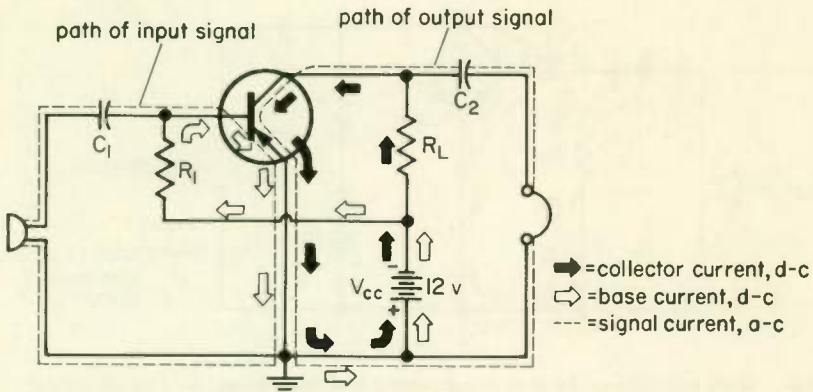
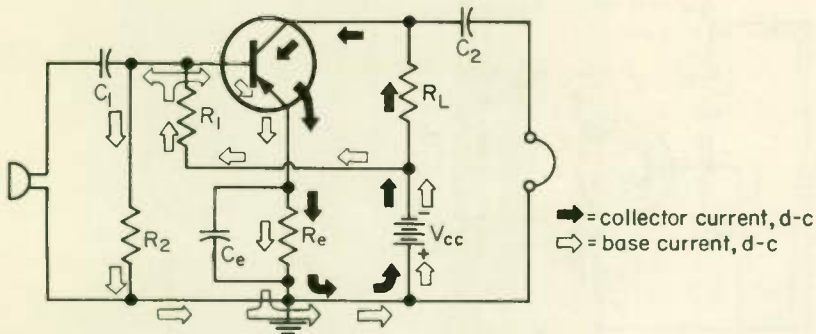
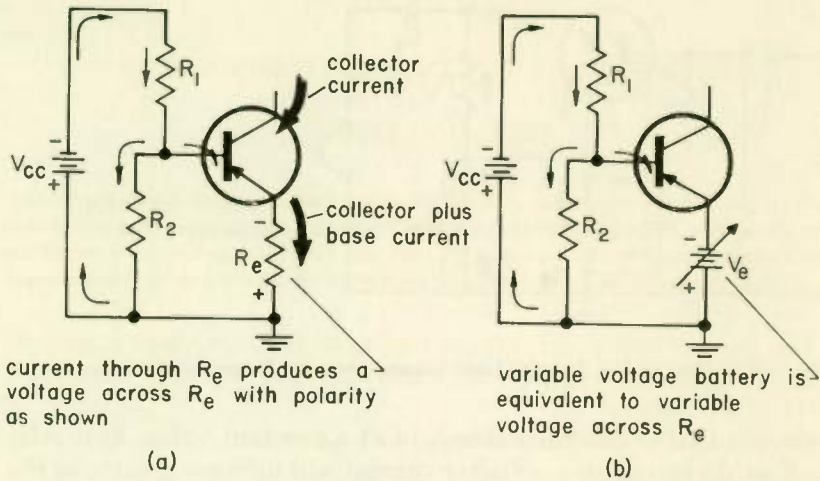

Fig. 25 Amplifier of Fig. 24 using a single voltage source.
Fig. 26 Amplifier of Fig. 25 with base biasing changed to provide stabilization.
Fig. 27 Stabilization circuitry from Fig. 26.
Now there is no need to have separate batteries to supply the collector current and the base biasing current. We can get the current for the base just as well from V_{cc} as shown in Fig. 25, so that V_{bb} is not needed. The only difference is that we are now using 12 volts for supplying the base bias current, where 1.5 volts was used before. As a result R_1 will need to be much larger.
Figure 26 shows one widely used stabilization method. The circuit differs from Fig. 25 in that R_2 , R_e , and C_e have been added. Also, a different value is used for R_1 . Tracing the d-c base current from the negative side of V_{cc} , notice that after it passes through R_1 , it divides, part going through R_2 and part through the transistor from base to emitter to form the base biasing current. In Fig. 27(a) the biasing part of the circuit has been redrawn, so that you can see better how the biasing current divides after going through R_1 ; part going through R_2 , and part through R_e . The collector current, many times greater than the base current, also flows through R_e . In accordance with Ohm's Law, the emitter current produces a voltage across R_e that is proportional to the emitter current. Thus as the collector current, and therefore the emitter current, varies because of temperature changes, so does the voltage across R_e vary.
We can represent the voltage across R_e by an equivalent battery V_e , as shown in Fig. 27(b). Notice that the polarity of V_e is such as to try
Figure 25 shows that the a-c signal currents also go through the emitter lead. Capacitor C_e in Fig. 26 provides a path for the signal so that it will not go through R_e . We want to bypass the signal around R_e for the same reason that we bypass the cathode bias resistor of a tube — so that the base bias current will not have an a-c component.
11. If the d-c collector current is too high in Fig. 26 at all temperatures, you could lower it by